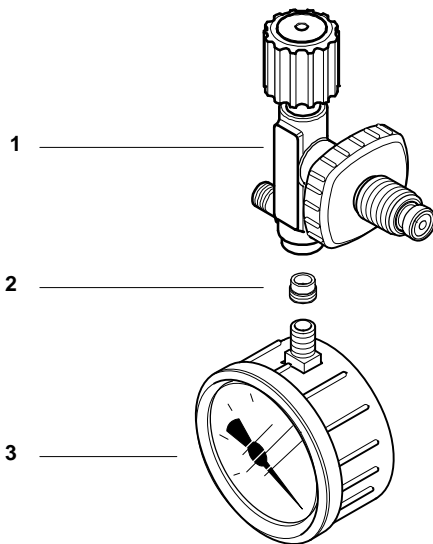

Fig. 22 Sintered metal filter
- Unscrew pressure gauge (3, Fig. 22) from filling valve body (1).
- Screw off sintered metal filter (2) with a suitable screw driver.